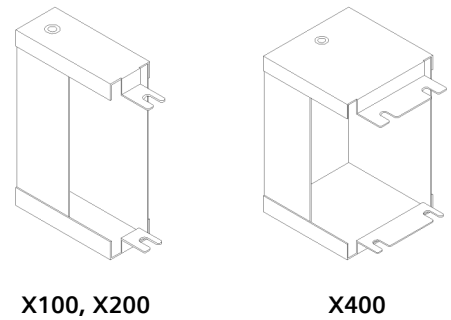

Figure 5
4.3.1 Remove external housing connectors if present. Loosen last housing screws on top and bottom of duct. Slip end closer over duct, engaging loosened screws. Tighten screws to retain end closer. (See Figure 5)